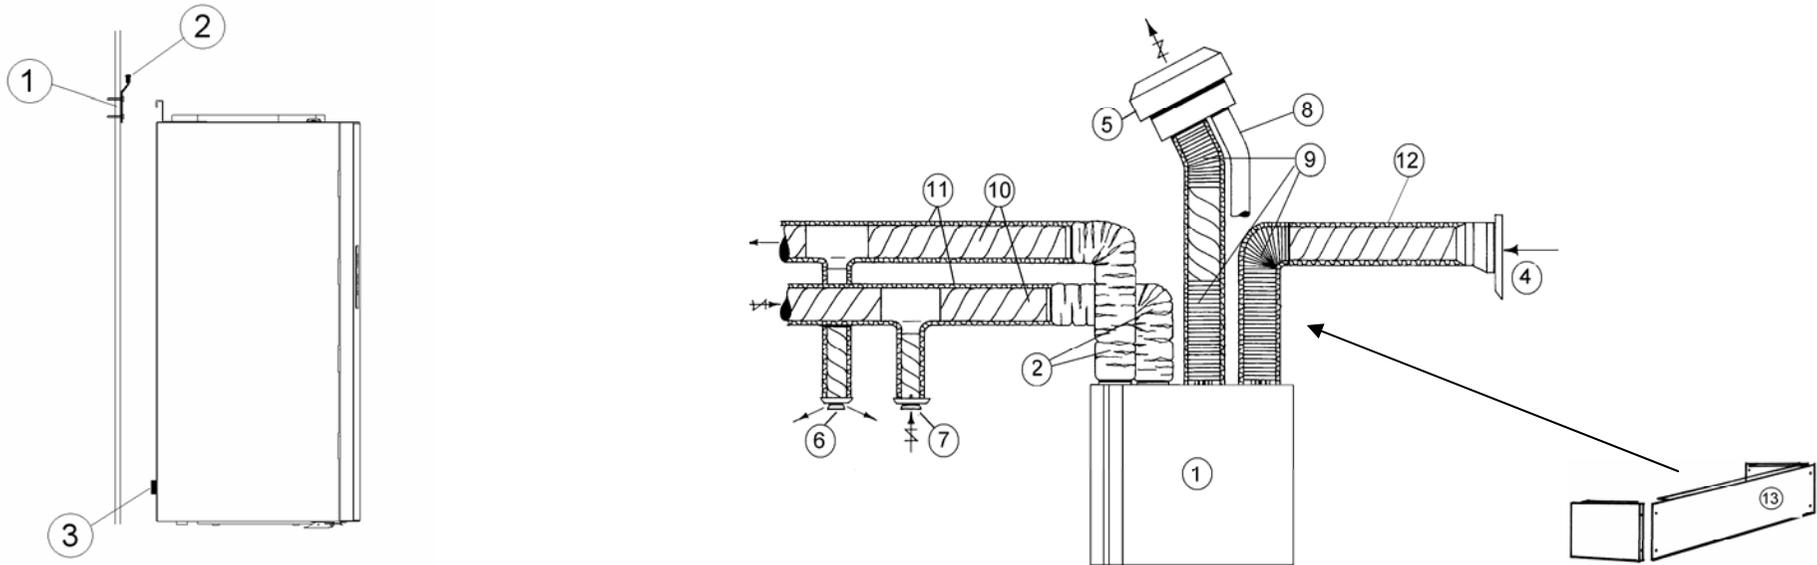

Fig. 1
**N****PLASSERING/ADKOMST, AGGREGAT (Fig. 1)**
**D****INSTALLATION DER ZENTRALEINHEIT (Fig. 1)**
**S****PLACERING/ÅTKOMST, AGGREGAT (Fig. 1)**
**GB****INSTALLING THE UNIT/POSITIONING AND ACCESS (Fig. 1)**